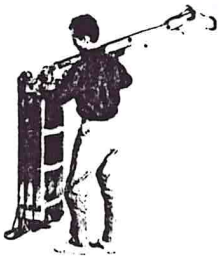

FIGURE 1.
1) Begin with ladder in fully folded position. Unlock two hinges on outside section. Raise section (figure 1) and relock outside hinges.